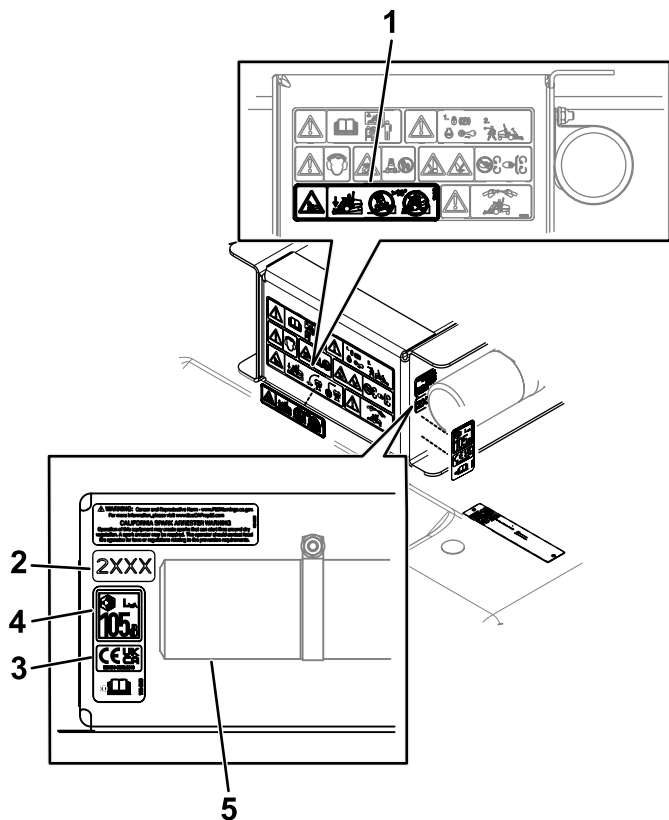

Figure 6
3. Install the slope decal (Part No. 144-3952) on the existing warning-decal location as shown in Figure 6.
- Install the CE and sound decal (Part No. 144-4015) near the model year decal as shown in Figure 6.